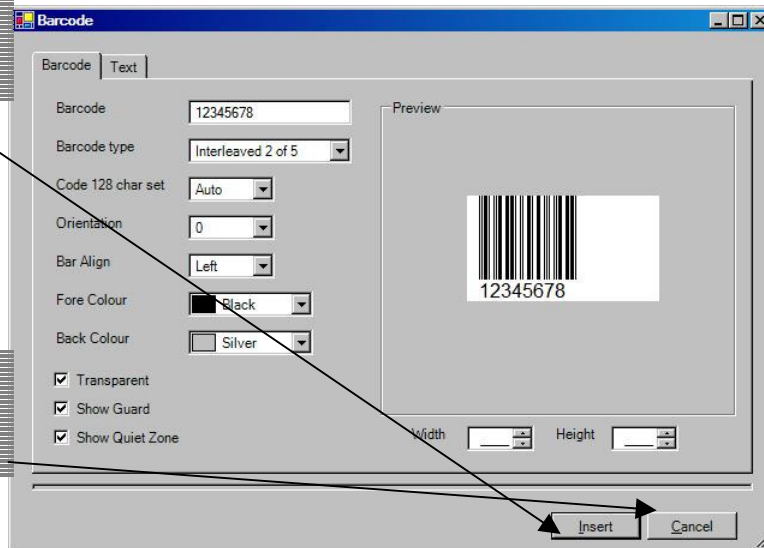

Figure 3.7.6: Insert the Barcode
5. Insert the barcode by pressing the insert  button located on the bottom right corner of the screen (see Figure 3.7.6).